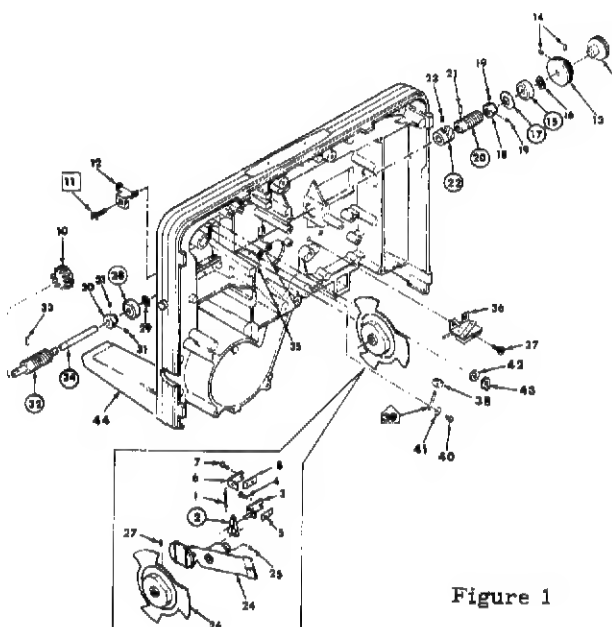

Figure 1
All functions are driven from a single drive shaft (34) which is turned by a reversible motor through a drive belt (Figure 1). Two worm gears (20) & (32) (drive gears), pinned to the shaft, drive the Take-Up Clutch gear and the Feed Sprocket Clutch gear. The Shutter (26) and the Safety Shutter (24) (in models which have the still feature) are mounted on this same drive shaft. Reverse operation of the projector is accomplished by changing the direction of rotation of the drive shaft by reversing the drive motor. (See Power Supply and Motor Drive Circuits.)
The Feed Sprocket Clutch is driven by the front worm gear on the main drive shaft (Figure 1). It, in turn, drives the Fast Forward and Rewind Clutches. The drive it supplies is direct in all forward modes and in Rewind, and clutched in Reverse.